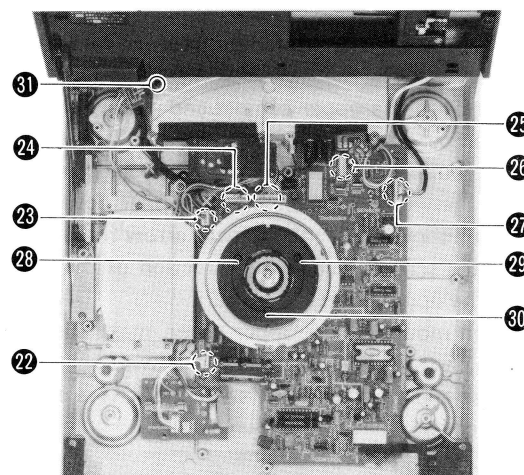

Fig. 9
3. Remove the 6 connectors ㉒ ~ ㉗ and stator cover setscrews ㉘ ~ ㉚. (See Fig. 9)
4. Remove the IC1 setscrew ㉛; then the drive P.C.B. can be removed. (See Fig. 9)